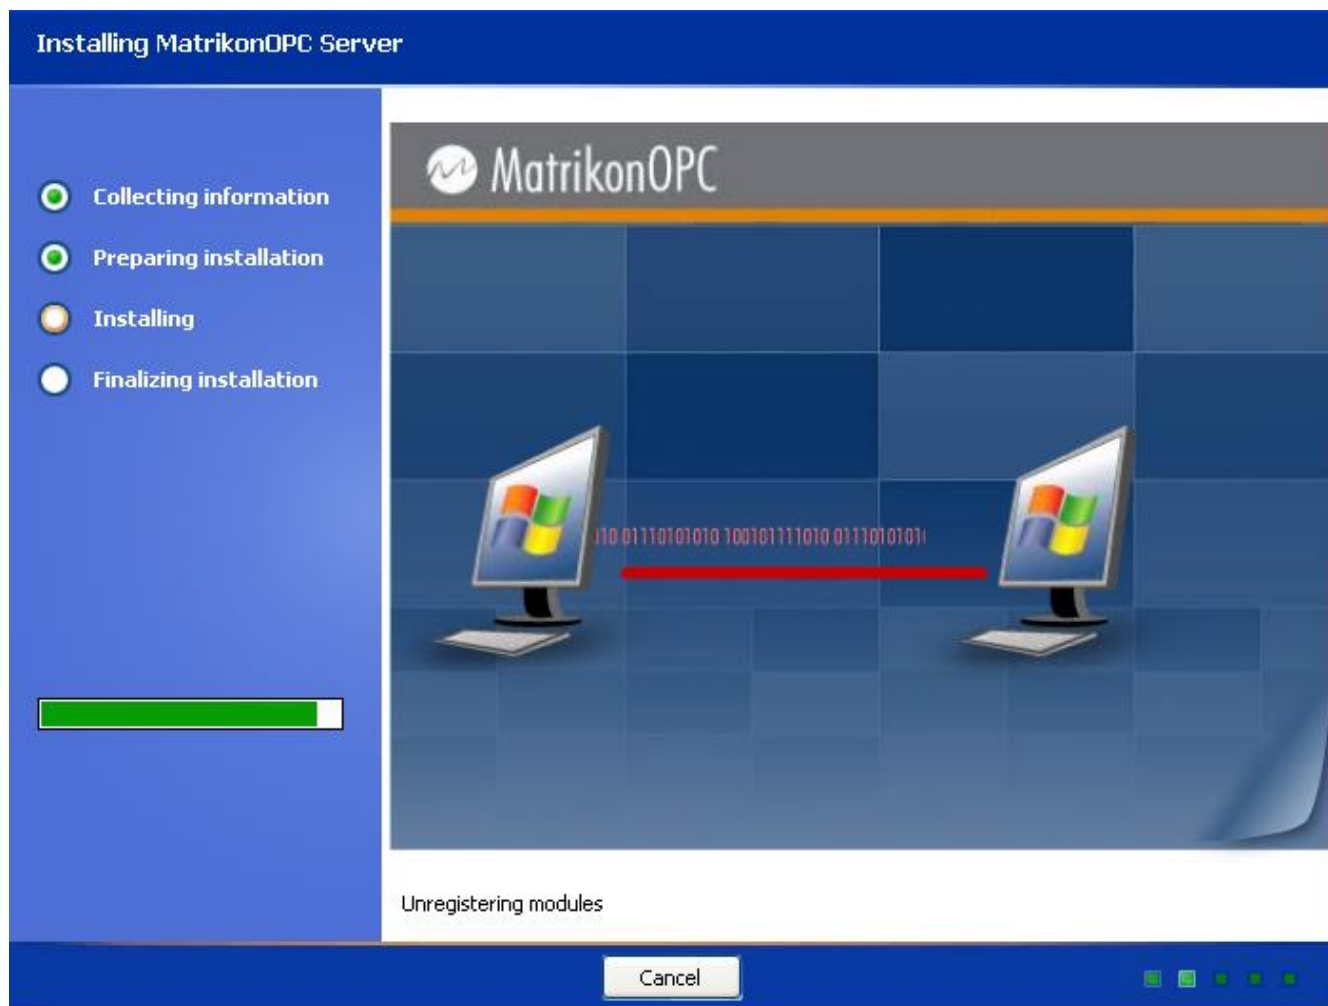

Figure 71 - Installing MatrikonOPC Server Screen
19. Click on the **Next** button. The **Installing MatrikonOPC Server for Vestas** screen (Figure 71) appears, installation begins, and the product files are copied to the computer.